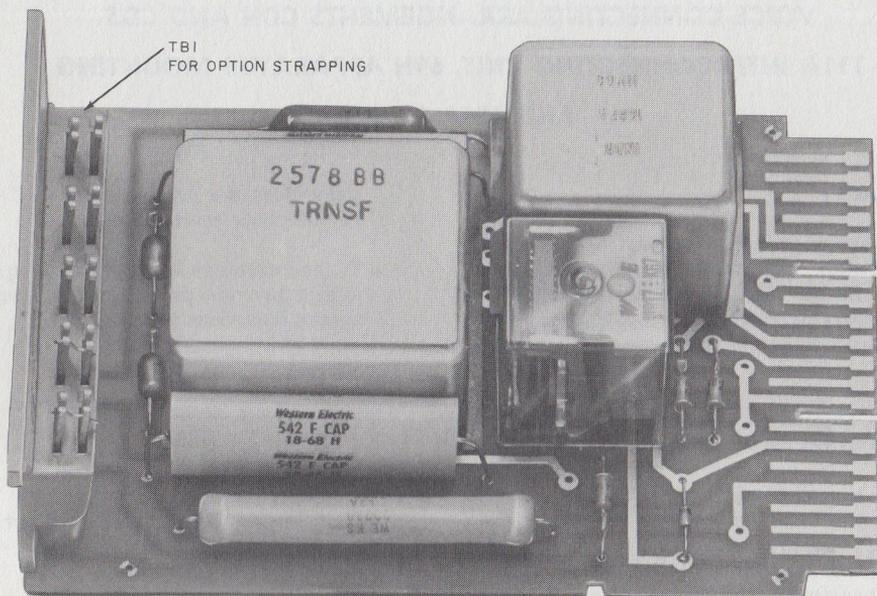

Fig. 1—111A Interconnecting Unit
- Unit, Interconnecting 111A (one per central office[CO] line, Fig. 1)
3.19 Strap terminals on TB1 of the 111A IU to obtain desired option (Fig. 1). Check for continuity after strapping.